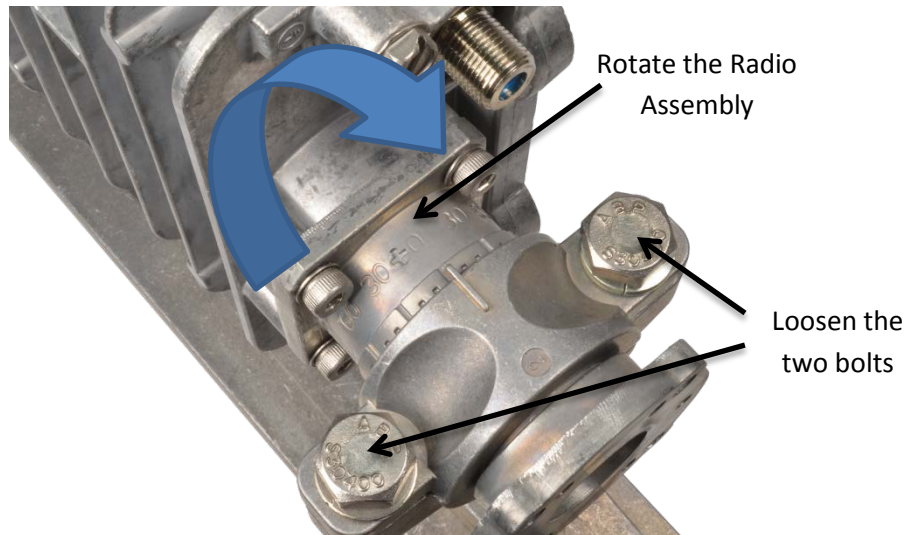

Figure 16: Rotate the radio assembly
16. Rotate the radio assembly as shown in Figure 16. To set the radio polarization at  $+30^\circ$ , rotate the radio assembly in the direction of the + sign on the waveguide spacer till the  $+30^\circ$  mark coincides with the marker on the circular bracket.